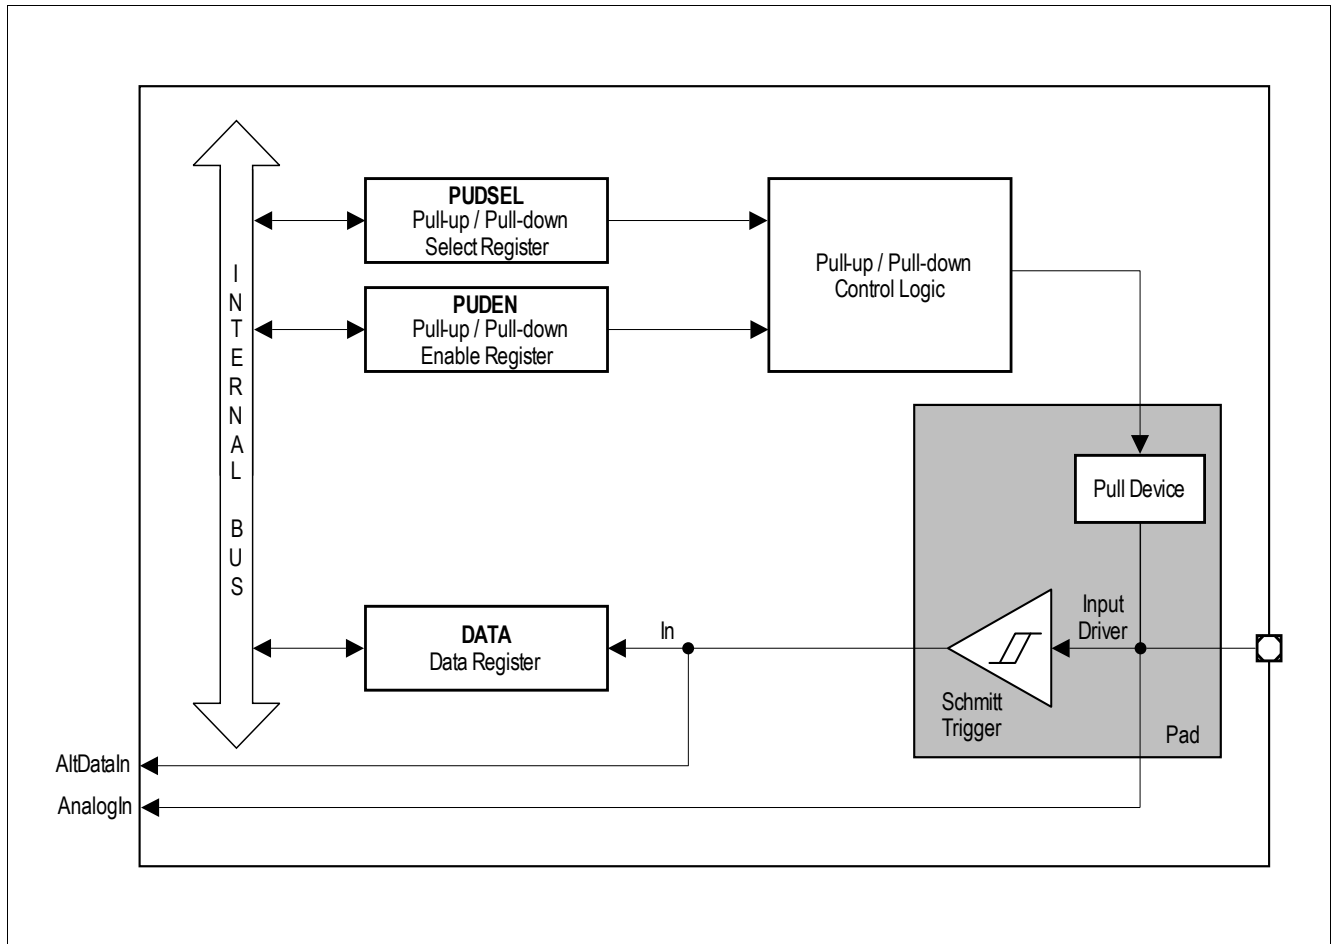

**Figure 17 General Structure of Bidirectional Port (P0, P1)**
**Figure 17** shows the block diagram of an TLE9879-2QXA40 bidirectional port pin. Each port pin is equipped with a number of control and data bits, thus enabling very flexible usage of the pin. By defining the contents of the control register, each individual pin can be configured as an input or an output. The user can also configure each pin as an open drain pin with or without internal pull-up/pull-down device.